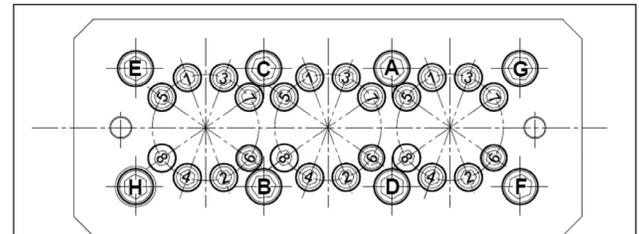

Fig. 72
- \*\* The head fixing screws (exploded position 48) must be tightened with a torque wrench respecting the sequence shown in the diagram in fig. 72.
- \*\*\* The liner fixing screws (exploded position 47) must be tightened in a single phase, respecting the sequence shown in the diagram in fig. 72.